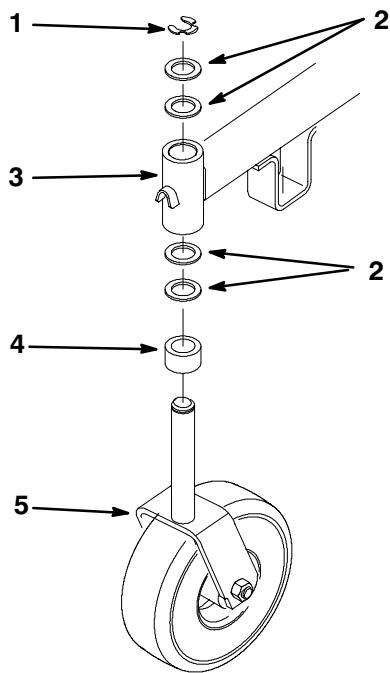

Figure 36
4. To change the front-to-rear pitch, remove the retaining ring and move an equal number of thrust washers on both castor wheel forks. Move the thrust washers from the top of the carrier frame mounting tube to the bottom to raise the front of the mower. Move the thrust washers from the bottom of the mounting tube to the top to lower the front of the mower (Fig. 36).
4. To change the side-to-side leveling, remove the retaining ring and move the thrust washers on one castor wheel fork only. Move the thrust washers from the top of the carrier frame mounting tube to the bottom to raise the corresponding side of the mower. Move the thrust washers from the bottom of the mounting tube to the top to lower the corresponding side of the mower. (Fig. 36).
2. Remove the retaining ring and thrust washer(s) from the top of the castor wheel fork (Fig. 36).
6. Inspect the castor wheel fork for wear and replace if necessary (Fig. 36).
7. Slide the castor wheel fork through the bushings in the mounting tube. Replace the thrust washer(s) onto the fork and secure with the lynch pin (Fig 36).